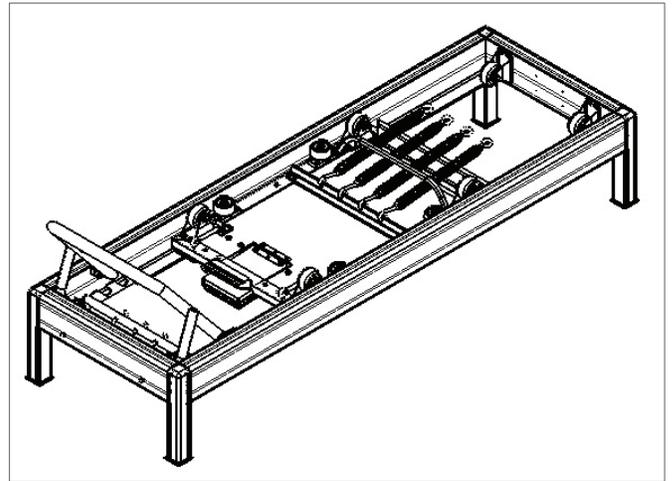

Figure 7
- Place the new carriage into the frame but vinyl side down (wheels facing up) on the towels. See Figure 7.